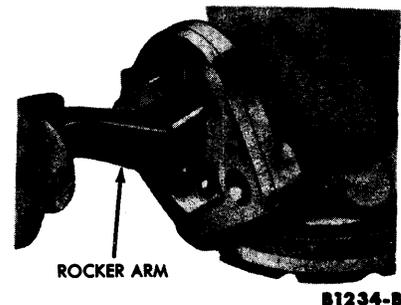

FIG. 3—Fuel Pump Diaphragm Removal or Installation
7. Press the diaphragm into the fuel pump body and pull the rocker arm out to unhook the rod from the rocker arm link (Fig. 3).
1. Position the fuel pump diaphragm assembly into the pump body. Then apply pressure on the diaphragm spring so that the rocker arm can be hooked on the rod as shown in Fig. 3.